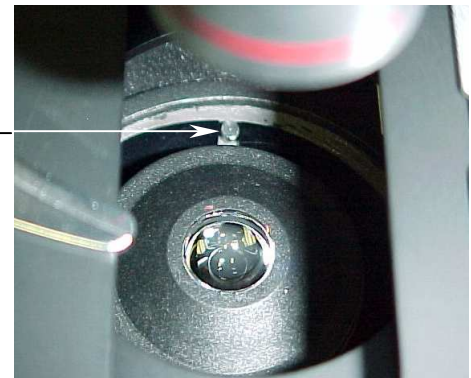

Fig. 3
- d. Insert the condenser in the support, so that the slot on the collar lines up with the positioning pivot. (Fig. 3)